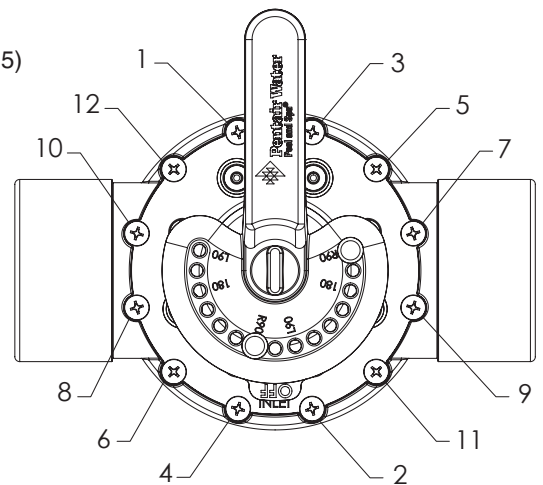

Figure 4. Diverter valve cover screws (Tightening Sequence)
To install the diverter valve top cover (see Figure 4 and 5):
- 3. Install the twelve (12) cover screws. Using a No. 2 Phillips screwdriver, torque the screws sequentially to 36 lb*in (4.1 N*m). using the crisscross tightening sequence shown in Figure 4.